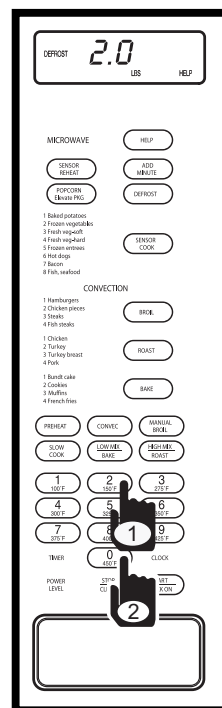

Figure 3-53.
3. Enter weight of the food being defrosted. For example: press the number 2 key, and number 0 key for 2.0 pounds (See Figure 3-53). After weight is entered, display will flash “2.0 - PRESS - START ”.